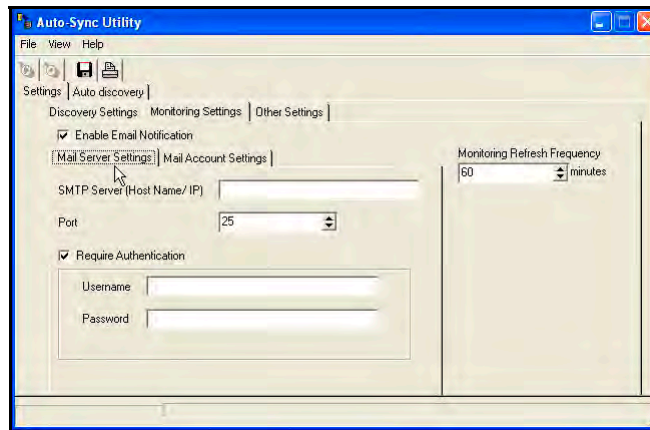
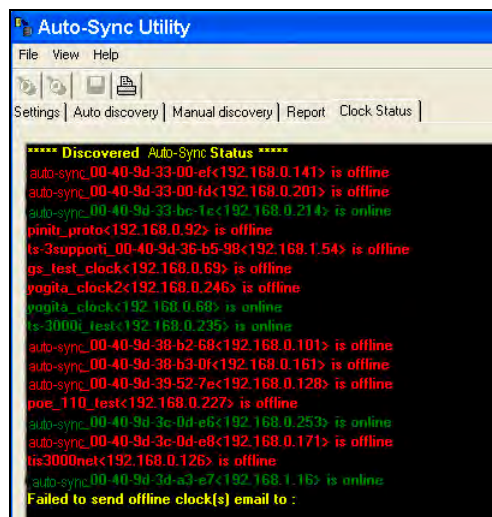

Figure 5-15. View Utility Settings – Monitoring Settings.
Figure 5-19. Clock Status Monitoring with Utility.
Click on the **Monitoring Settings** tab to enter **Mail Server Settings** (see *Figure 5-15*) to;
*NOTE:* Enter the amount of time in minutes in the “Monitoring Refresh Frequency” field (see *Figure 5-15* for an example with 60 minutes selected) that you want the clock status screen updated (see *Figure 5-19*). In this example, if the Auto-Sync Utility is running the clock monitoring screen will be refreshed every 60 minutes.